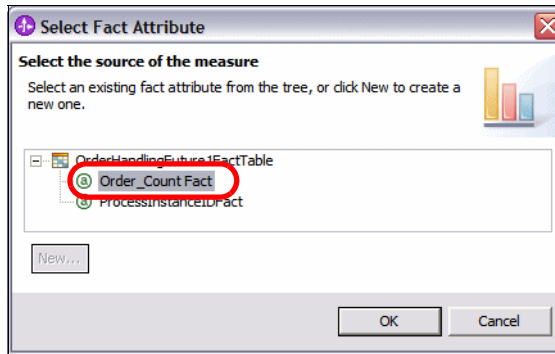

Figure 12-30 Select the fact of the metric
- ▶ Select the *Order_Count* fact and click *OK* (Figure 12-30). Every metric becomes a fact in the Data Mart Model tab.